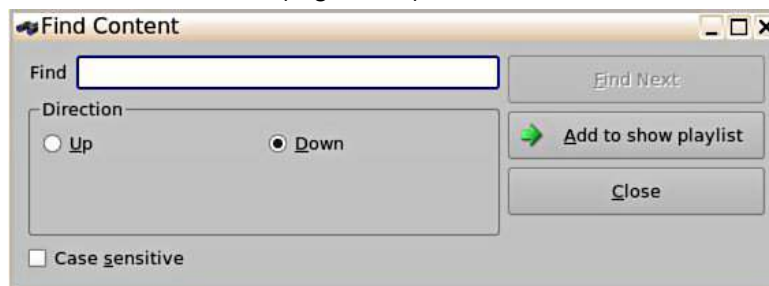
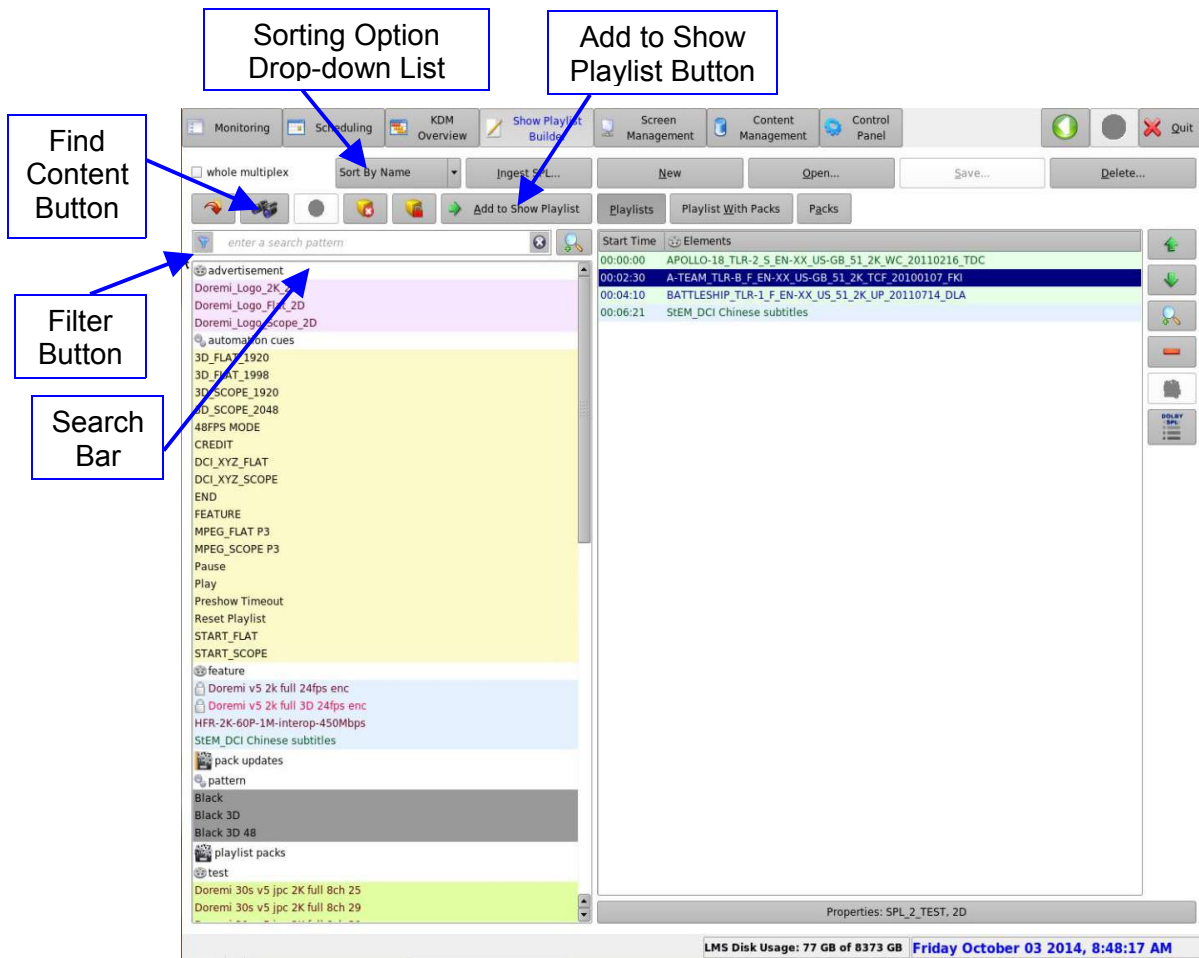

Figure 47: Find Content Window
Figure 48: Find Content Options
- To search for a specific CPL, click on the Find Content button (Figure 48) and type in the name of the CPL (Figure 47).
- To filter the CPLs, click on the Filter button (Figure 48). The user can filter by advertisements, automation cues, features, patterns, playlist packs, policy, psa, rating, shorts, teasers, tests, trailers, transnational, trigger cues, and a custom search.
- There is also a Sorting Option drop-down list that allows the user to sort the content on the left side of the window by name, format, and locked material (Figure 48). See Section 6.4.5 for more information on locked material.
- The user can also search for a specific item by typing in the name of the item into the search bar, see Figure 48.